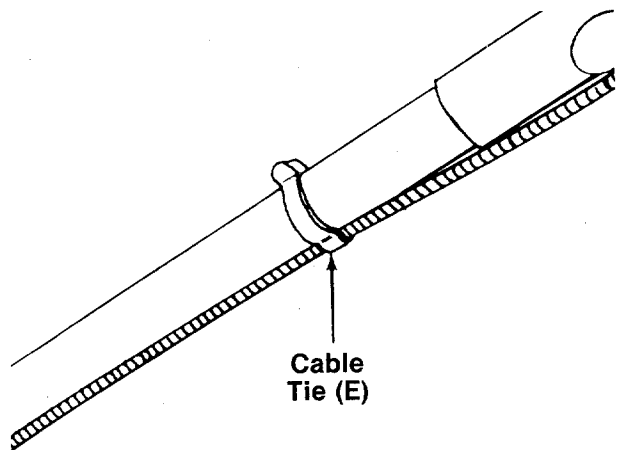

FIGURE 10.
14. Secure control cables to upper and lower handles with cable ties (E) provided. See figure 10.